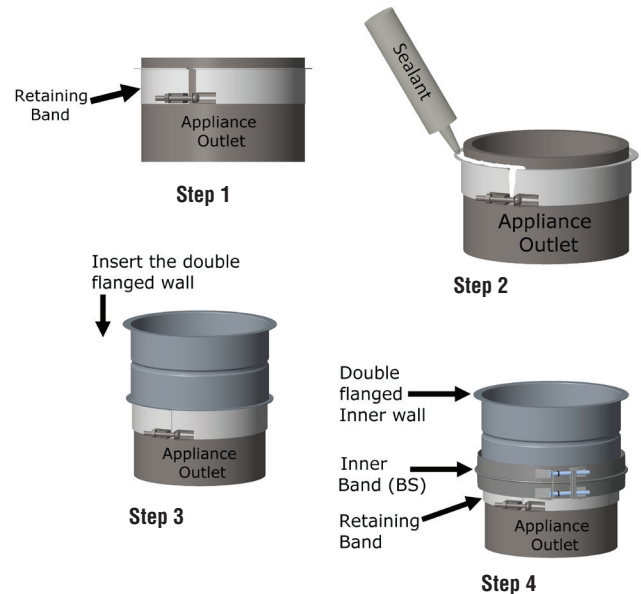

Figure 76 - Installation of a Single Wall Adaptor (SWA) on an appliance
4. Tighten the Locking Band (BS) to hold and seal the adaptor in place. See **Figure 76**